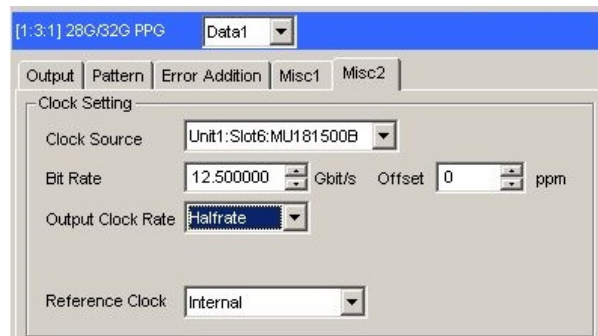

Figure F.5-2 Output Clock Rate Setting on the Misc2 Tab of MU183020A
- 3, 4. Use coaxial cables (applicable part, 0.8 m, K connector) to connect MU183020A's **Data Output1** and **Data Output2** connectors respectively with the **Data Input** connector of each MP1825B No.1 and 2. Then, on the **Misc2** tab of MU183020A, select **Halfrate** in the Output Clock Rate box. (Figure F.5-2)
- 3, 4. Use coaxial cables (applicable part, 0.8 m, K connector) to connect MU183020A's **Data Output1** and **Data Output2** connectors respectively with the **Data Input** connector of each MP1825B No.1 and 2. Then, on the **Misc2** tab of MU183020A, select **Half-rate** in the Output Clock Rate box. (Figure F.5-2)